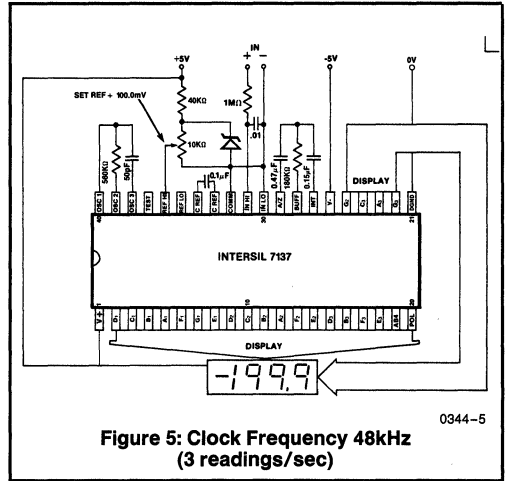

Figure 5: Clock Frequency 48kHz (3 readings/sec) 0344-5
5. 48kHz oscillator, Figure 5, increases current by 35 μA (typ).